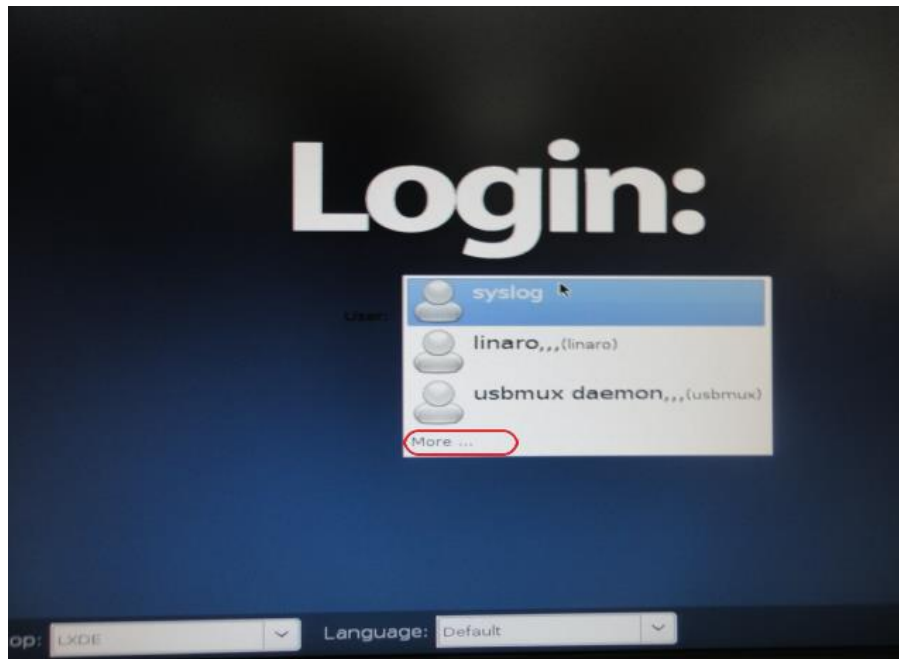
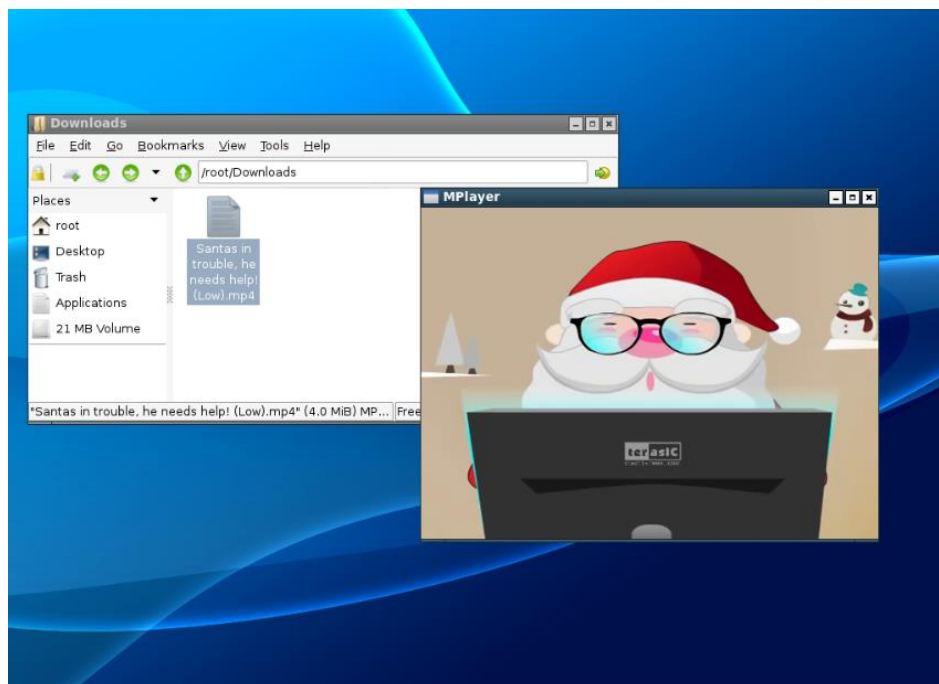

Figure 6-3 Login Interface of LXDE
Figure 6-4 Using LXDE to Play a Video
- After a while, the login interface shows on the monitor as shown in **Figure 6-3**. You should choose more and type “root” when it requires your user name and press “Enter” on your USB keyboard and type “terasic” for password and press “Enter”. Now you should login in to the LXDE and try to get familiar with the GUI system. **Figure 6-4** shows a mp4 video playing in LXDE.